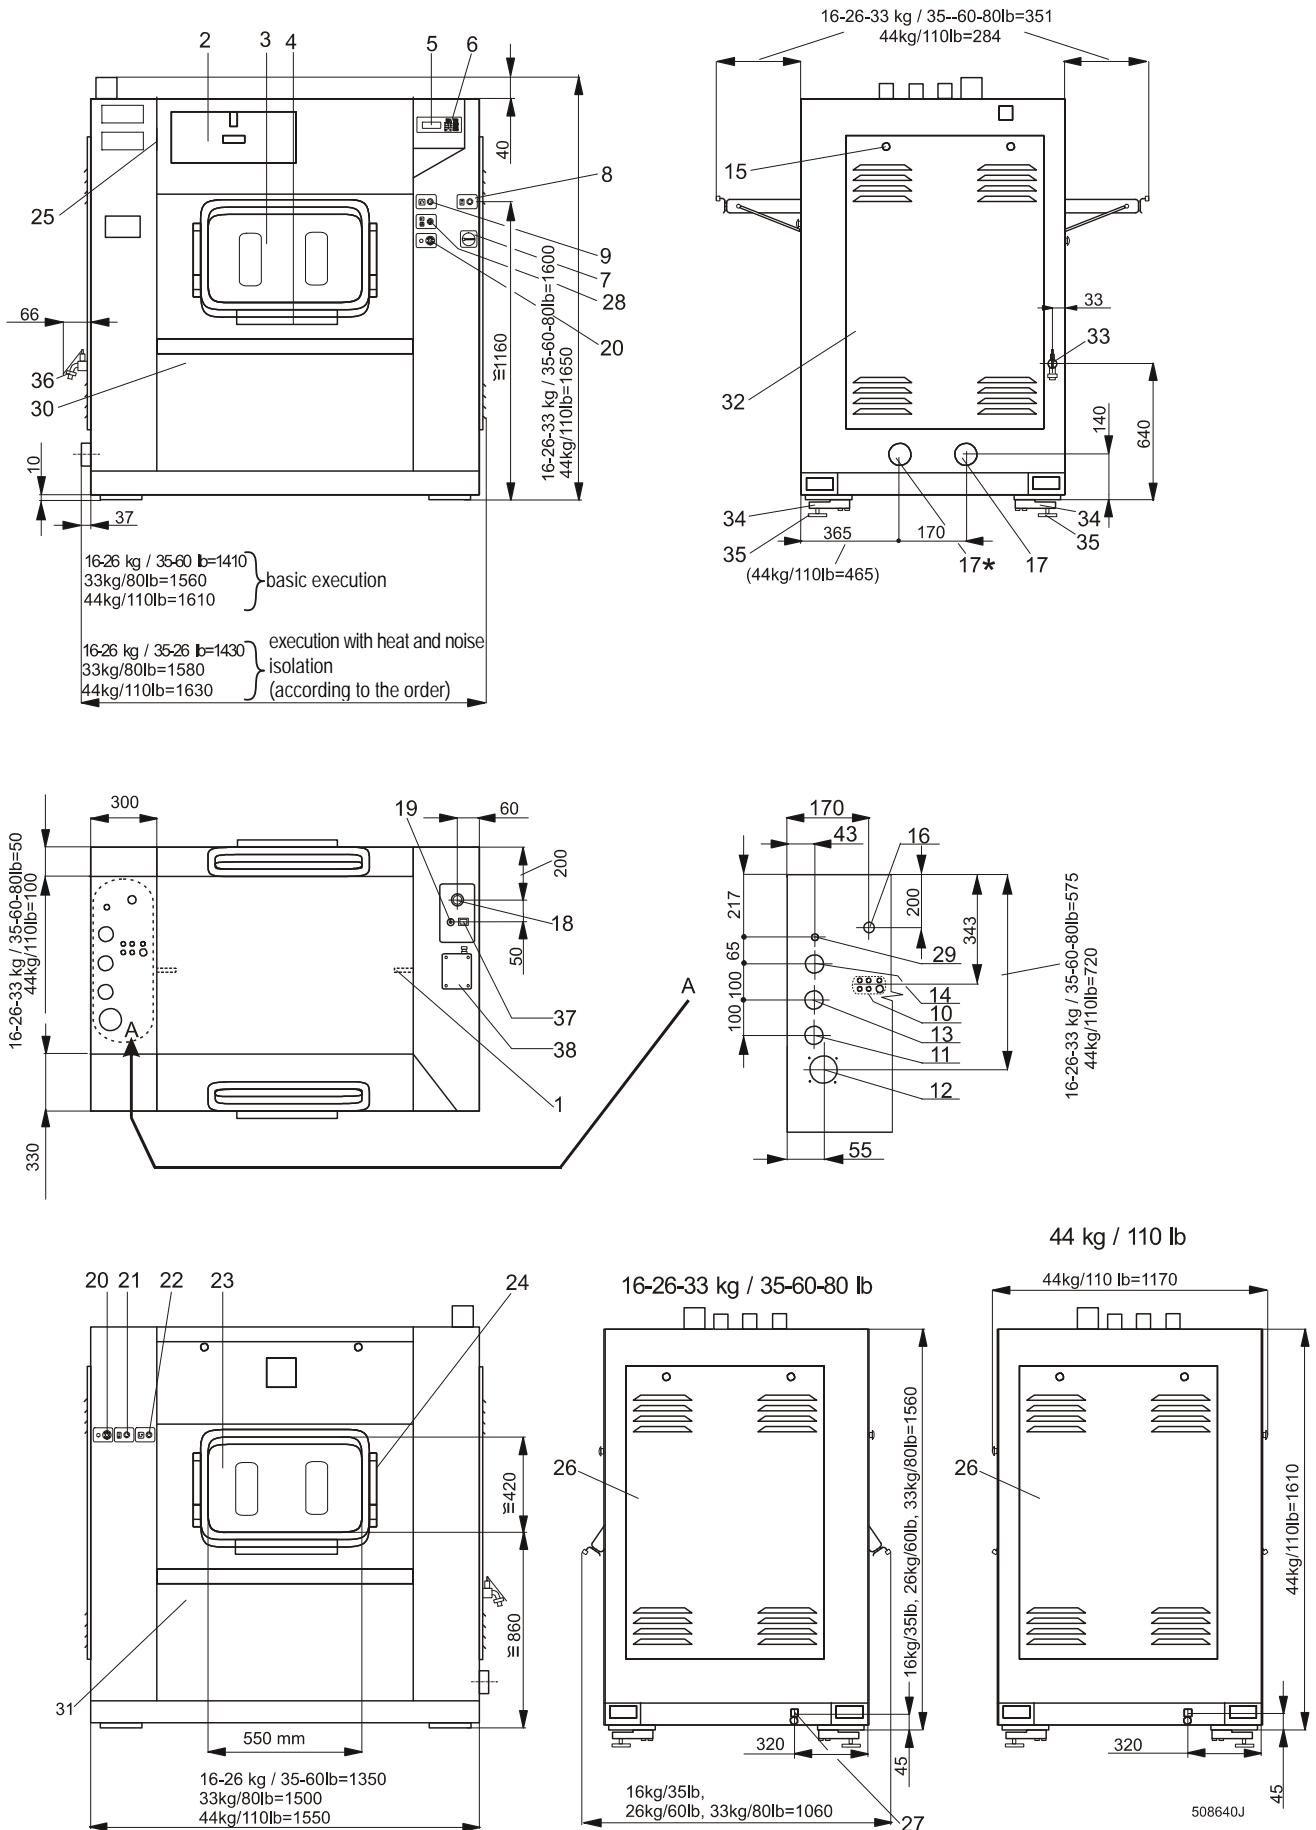
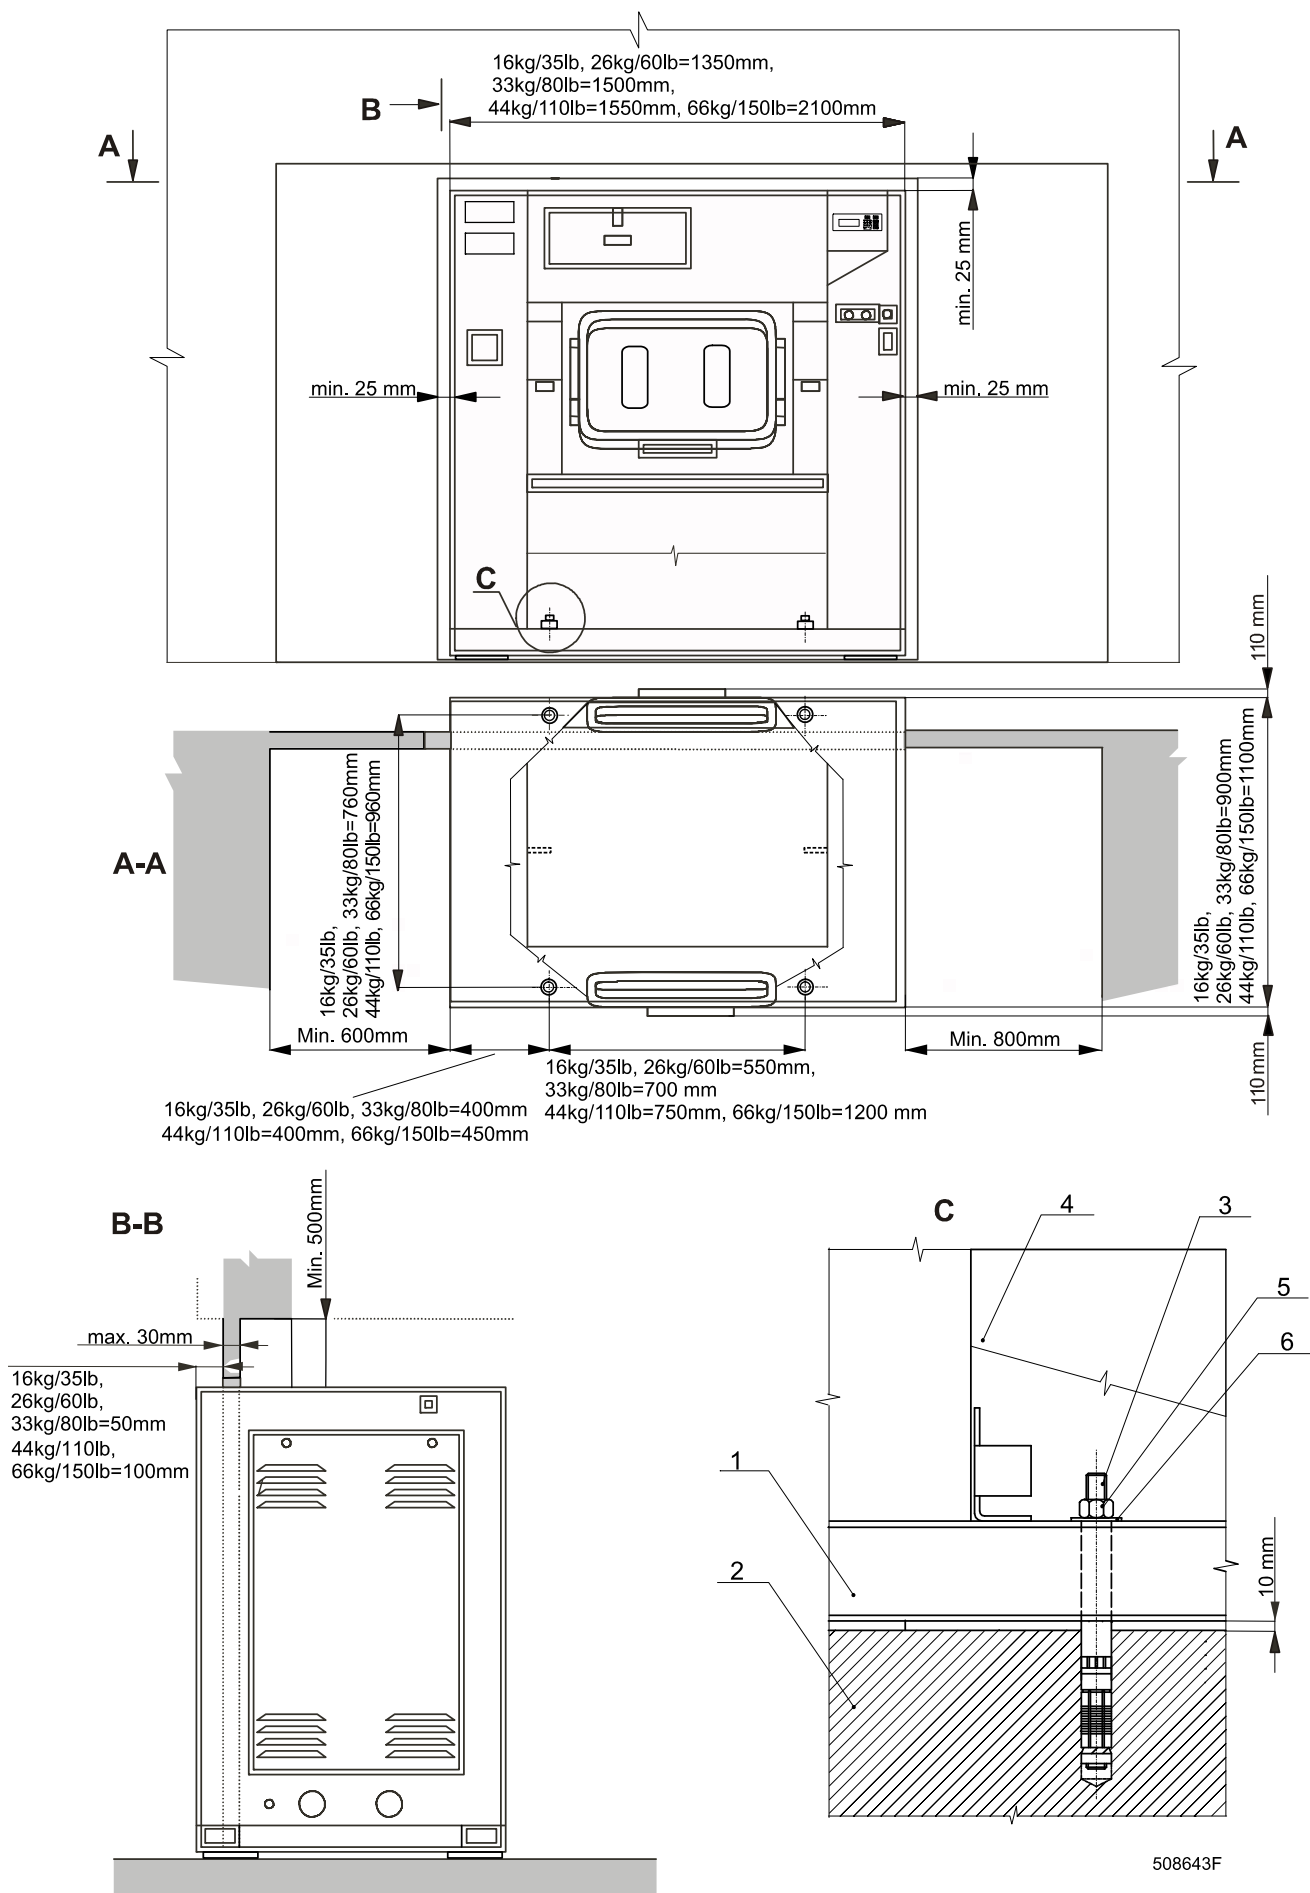

Fig.3.3. Placement of components on the machine 16-44 kg / 36-100 lb (dimensions stated in mm)
Fig.4.3. Installation plan (dimensions are stated in mm)
- After unpacking, check if the machine has not been damaged and if all the accessories are included according to your order. Verify the machine model according to your order and the data plate located on the left upper side panel on the front side of the washing machine, (load side view), fig.3.3., 3.4, pos.25 and find corresponding information in the manual. The accessories and the manuals are located inside of the drum, which can be opened according to chapter 6.1.
Total space requirements for the system installation are usually determinate by a detailed plan of the building. The machine dimensions are stated in the chapter „3. TECHNICAL SPECIFICATION“. For replacement of service panel and maintenance of the machine leave at least a 0,6 m / 23,62" free space between the left panel of the machine and the wall and at least a 0,8m / 31,49" free space between the right panel of the machine and the wall or between the machines, fig.4.3. The waste piping or outlet channel must be dimensioned to the discharged water quantity and a number of washing machines.
In the floor consider only positioning of mechanical anchors for fixing the machine and the suitable drain duct for the waste water. Drill 4 holes into the floor in the spots according to installation plan and the machine model, see fig.4.3. Dimensions of holes are given in the table 4.3. Remove lower covers from the machine (fig.3.3., 3.4, pos.30 and 31) and install the machine in such a position, so that the holes in the machine lower frame correspond correctly with the holes drilled in the floor. Using a water level, check the position of the machine base frame which must be laid horizontally. The machine is fixed using the anchors, fig.4.3. Put the slightly assembled anchor (including screw) into the hole and push it gently through profile of the machine lower frame down to the level of washer. Tighten an anchor using a torque given in the table 4.3. The machine must be leveled and firmly fastened to the floor which meets static and dynamic load of the machine.
The washer is equipped with 1" BSP (British Standard Pipe Thread) hot and cold water inlet valves, indicated by a sticker next to the inlet. For connection dimensions see fig.3.3., 3.4. Use the water inlet hoses that accompany the washer as they are properly adapted to the water valves and appliance.